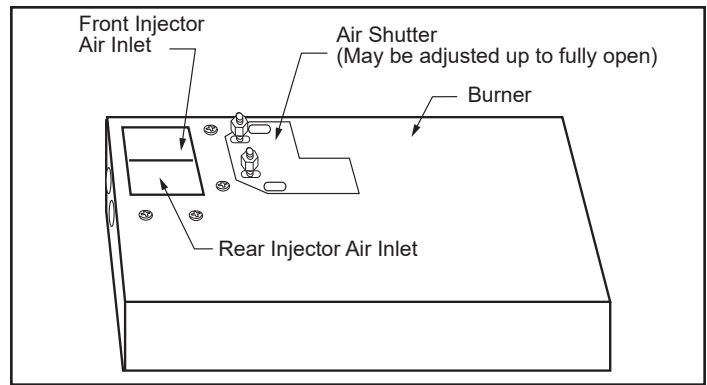

**Figure 4.2** - Remove rear log bracket and left and right log bracket assembly.
5. Remove the rear log bracket by unfastening the screw, Figure 4.2.
6. Remove the right and left log bracket assembly by unfastening the two screws which hold the burner in place, Figure 4.2.
8. The air shutter is located on the bottom of the burner to the left, Figure 4.2. Unfasten the two nuts holding the shutter in place.